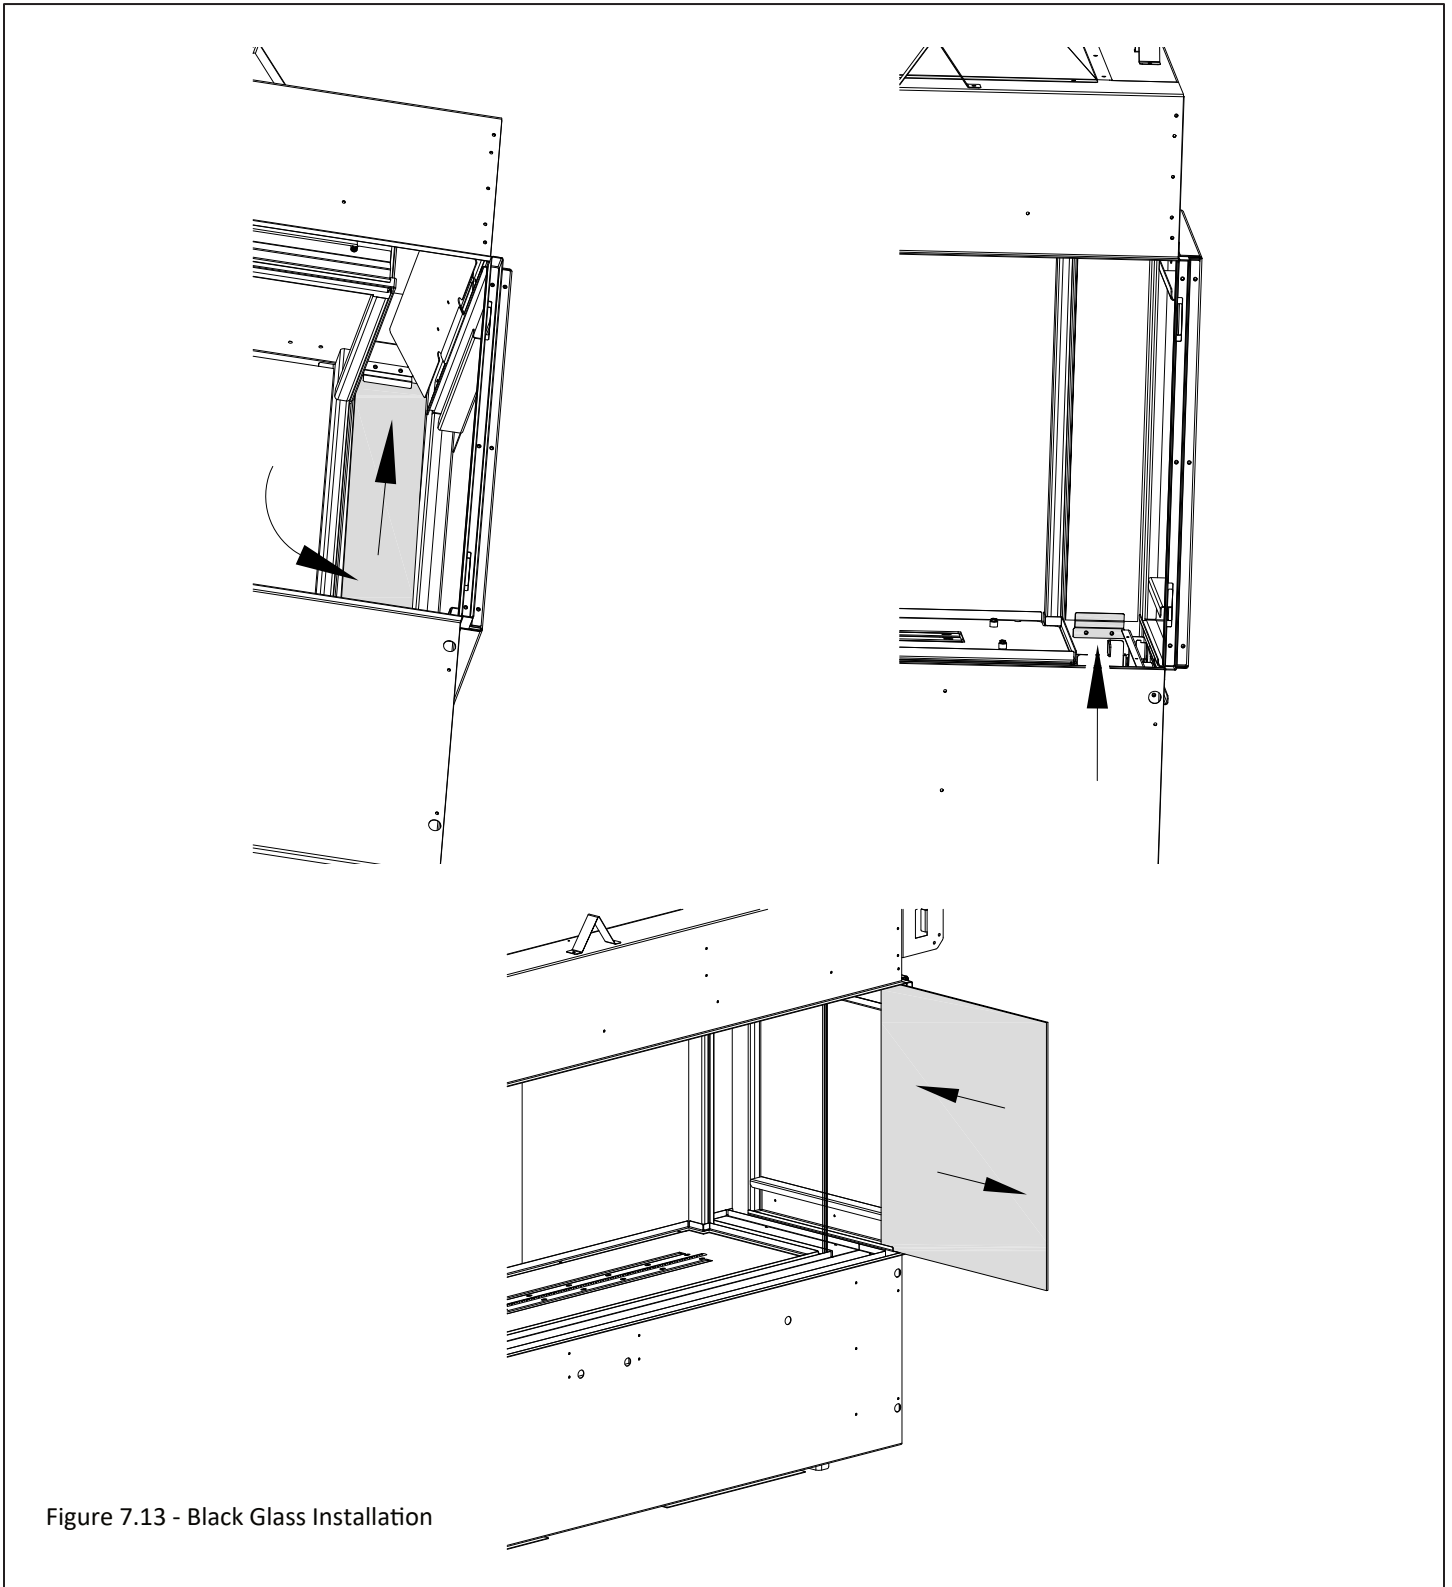

Figure 7.13 - Black Glass Installation
3. Install the (2) rear perimeter black glass panels by tilting them sideways until you get them to the back of the fireplace. Place the top edge of the glass up into the preinstalled top perimeter panel clip and tilt into place. While holding the black glass in place, use the supplied perimeter panel clip and secure the clip on the bottom of the black glass with (2) sheet metal screws. See Figure 7.13.
4. Install the side black glass panels by sliding them into position as shown in Figure 7.13.